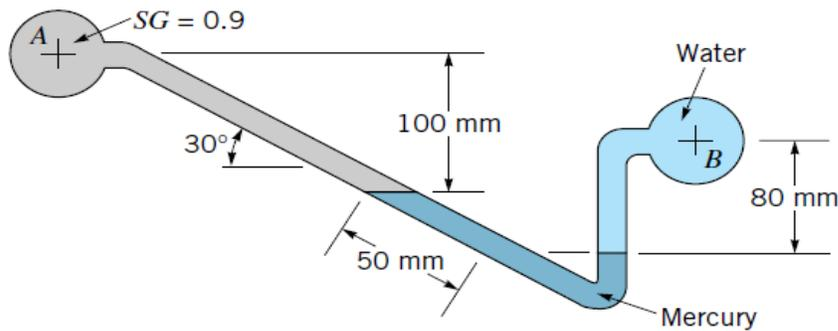

Fig.8
8. Determine the new differential reading along the inclined leg of the mercury manometer of Fig.8, if the pressure in pipe A is decreased 10 kPa and the pressure in pipe B remains unchanged. The fluid in A has a specific gravity of 0.9 and the fluid in B is water.